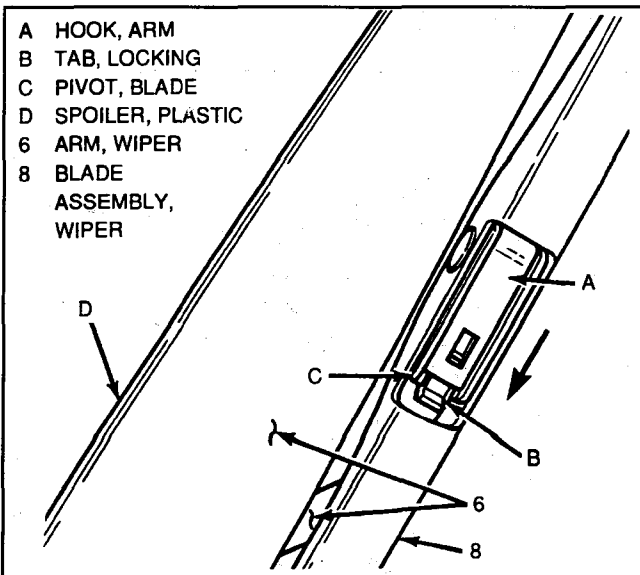

Figure 12 — Wiper Blade Assembly Removal
Figures 12 and 13
1. If wiper arms have not been removed, lift wiper arm (6, Figure 12) until it locks into service-up position.